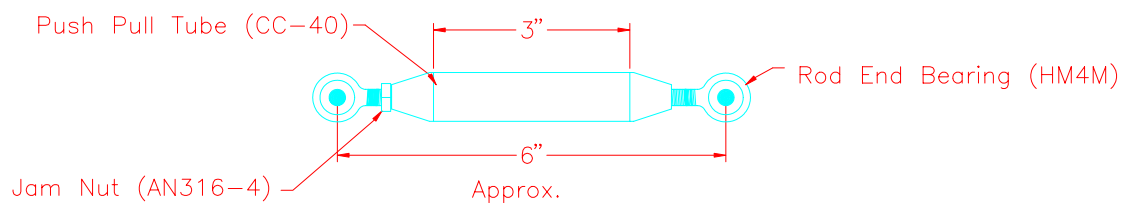

Figure 15.6.11
16) Make a push-pull tube (CC-40) from 3/4" x .035 tubing (RAWST-22). Adjust to length by turning the rod end bearings then lock in place with a jam nut (AN316-4) on the outboard end only. Figure 15.6.11.